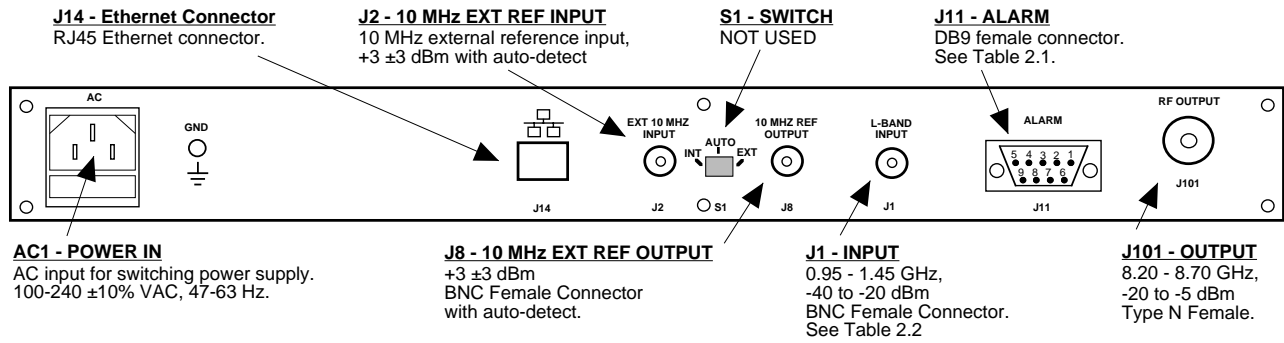

FIGURE 2.1 3115-8287 Rear Panel I/O's
Figure 2.1 shows the input and output connectors on the rear panel.
1. Connect a -40 dBm to -20 dBm signal to RF IN, J1 (Figure 2.1).